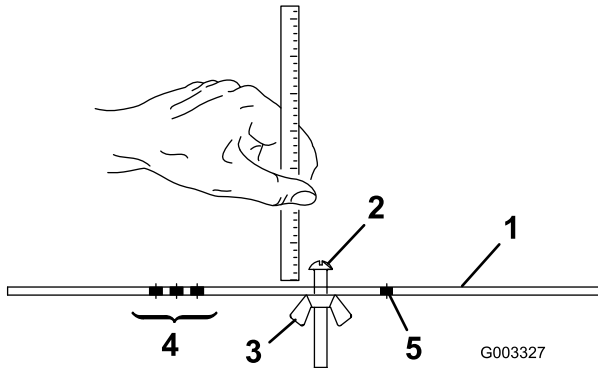

Figure 19
2. Loosen nut on gauge bar (Figure 19) and set adjusting screw to desired height-of-cut. Distance between bottom of screw head and face of bar is height-of-cut.